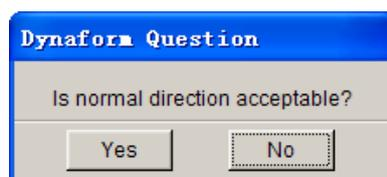

Figure 5.18 Question dialog box
3. An arrow that appears on the screen shows the normal direction of the selected element. A prompt will ask **“IS Normal direction acceptable?”**. See Figures 5.18~5.19.